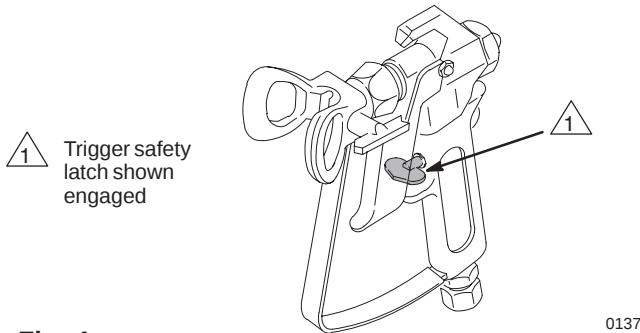
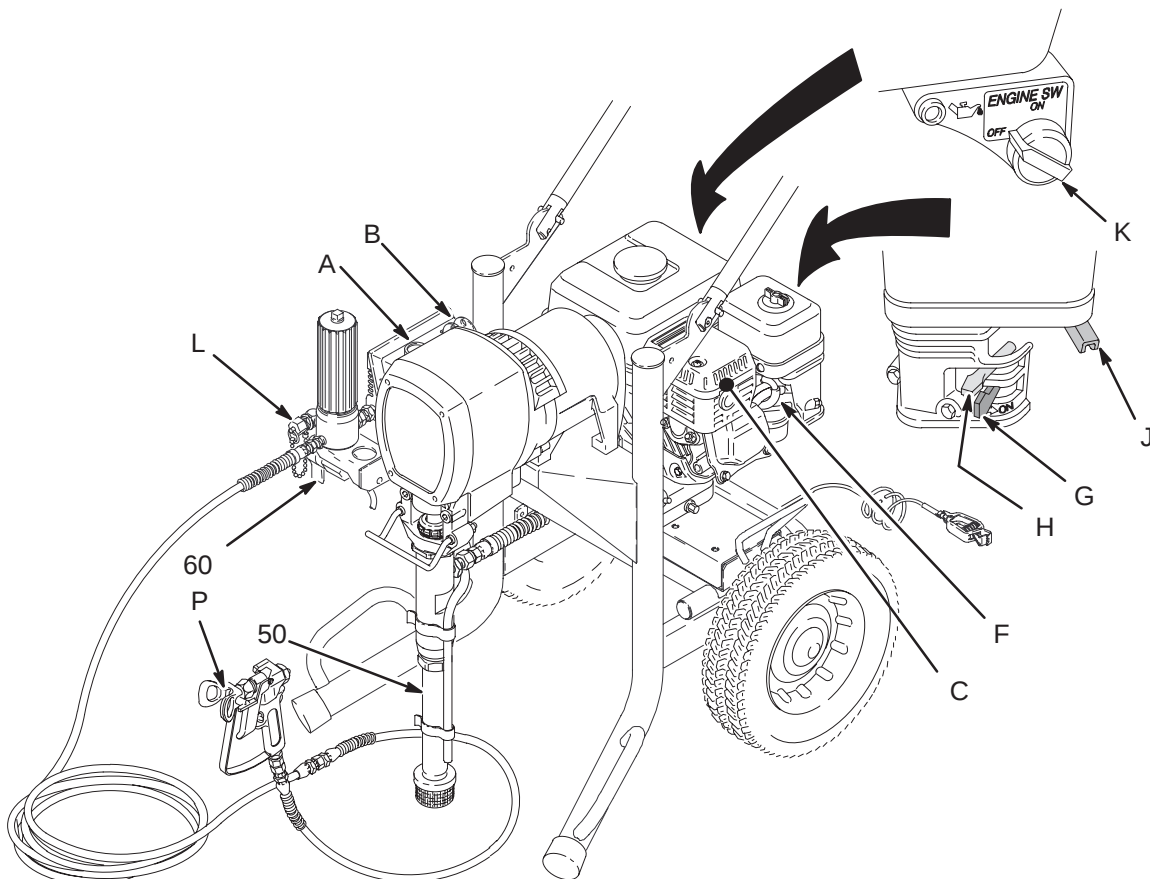

Fig. 4
Fig. 5
NOTE: For the startup procedure, refer to Fig. 5 except where noted otherwise.
1. Become familiar with how to operate the gun's trigger safety latch. See Fig. 4 and refer to your gun instruction manual.
4. Close the pressure drain valve (60). See Fig. 5. Squeeze the trigger until fluid flows from the gun. This primes the hoses. Release the trigger. Engage the gun safety latch. See Fig. 4, page 8.
Close the black fuel shutoff lever (G) when transporting the sprayer to prevent fuel from flooding the engine. See Fig. 5, page 9.
WEEKLY: Remove the cover of the air filter (C) and clean the element. See Fig. 5, page 9. Replace the element, if necessary. If operating in an unusually dusty environment, check the filter daily and replace it, if necessary.